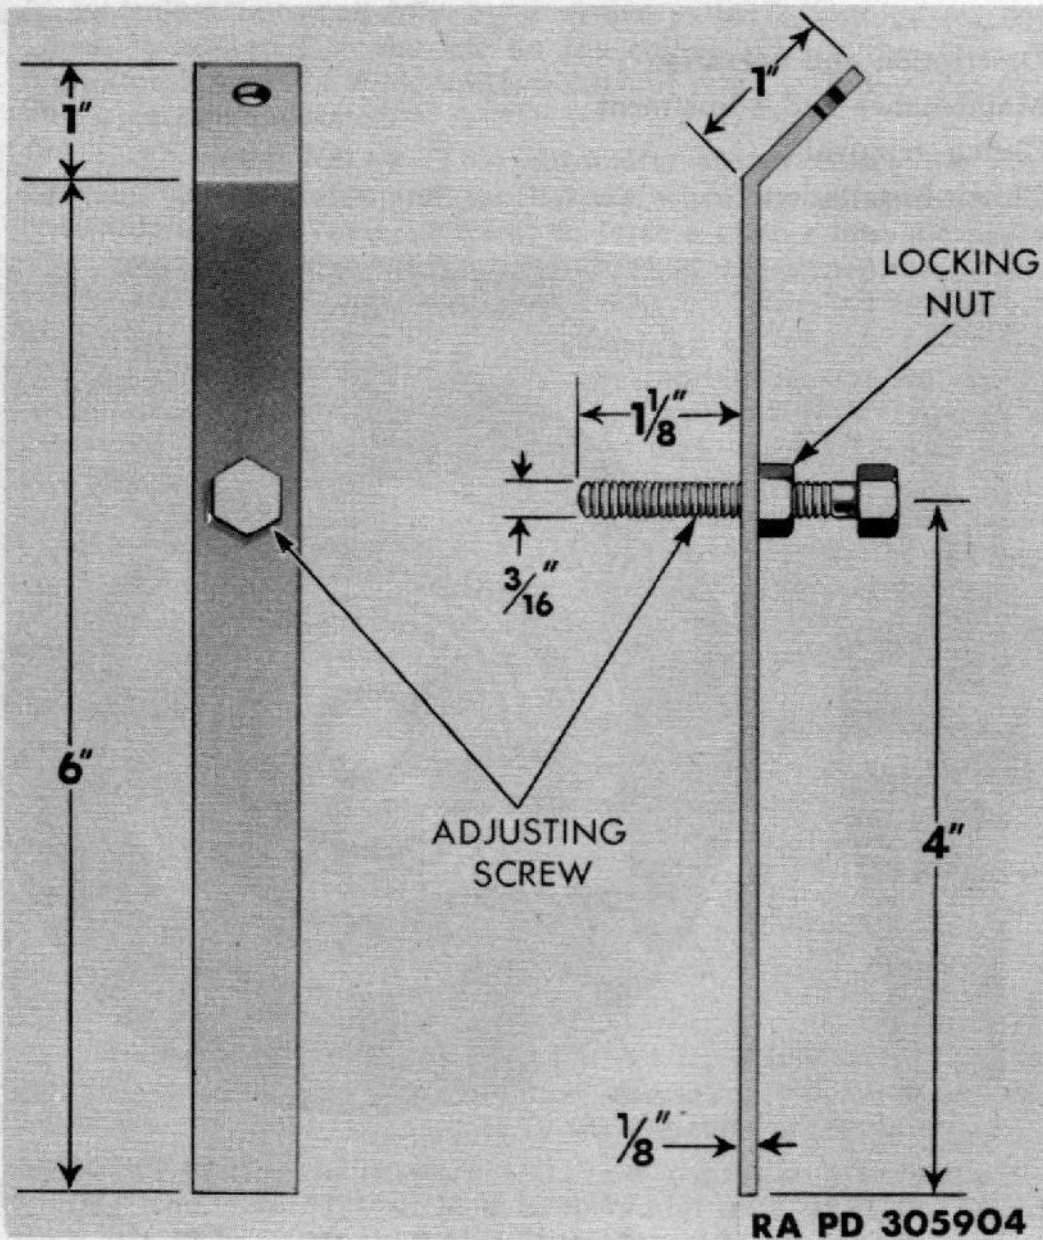

Figure 82—Gage for Clutch Adjustment
b. Adjustment. Adjust the clutch when the pedal free travel becomes $\frac{1}{2}$ inch or less. Adjust clutch, using common method with two six-inch scales, or with improvised gages (fig. 82).